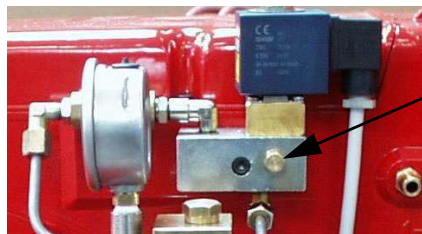
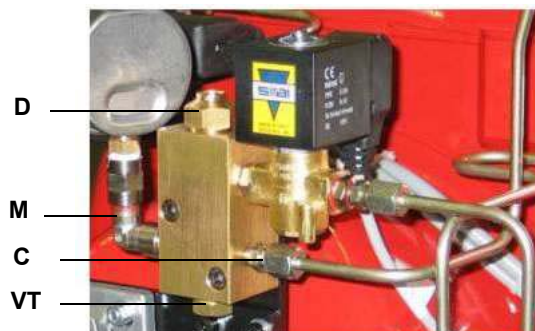

Fig. 27
Fig. 28 - Oil manual governor
- 6 the nozzle supply pressure is already factory-set and must not be changed. Only if necessary, adjust the supply pressure as follows (see related paragraph); insert a pressure gauge into the port shown on Fig. 27 and act on the pump adjusting screw **VR** (see Fig. 28) as to get the nozzle pressure at 20bar (Monarch or Fluidics nozzles - see page 30).
Note: After a certain operating period, the pressure can change because of some dirt on the needle's seal: remove the screw **VT** (see Fig. 28) and clean.